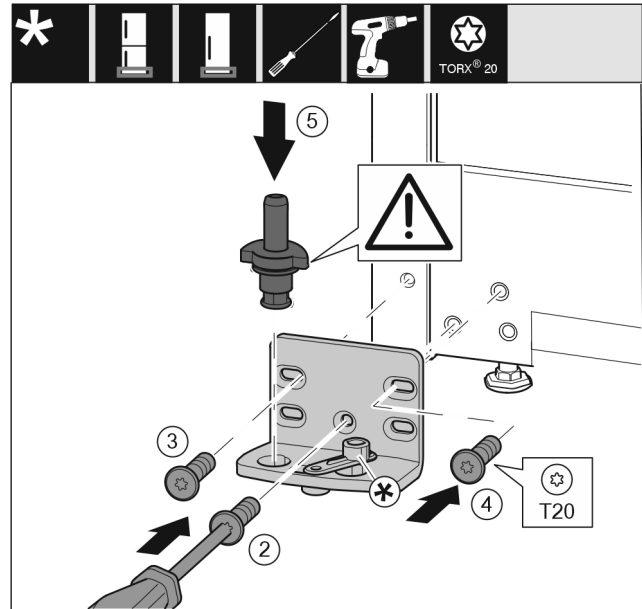

Fig. 18
- ▶ Attach the swap bearing block onto the other side and screw it on using a screwdriver. Start with the screw Fig. 18 (2) at the bottom center.
- ▶ Tighten screw Fig. 18 (3) and screw Fig. 18 (4).
- ▶ Insert the bearing pin Fig. 18 (5) completely. In the process, make sure that the latching cam shows towards the rear.